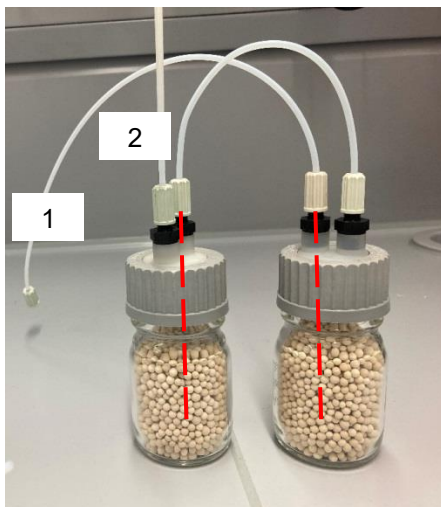
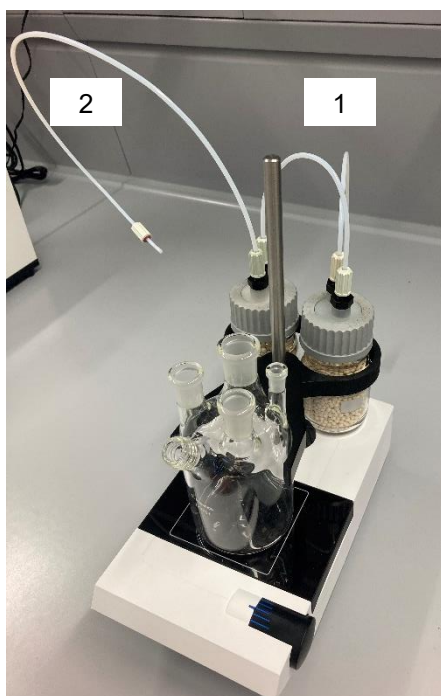
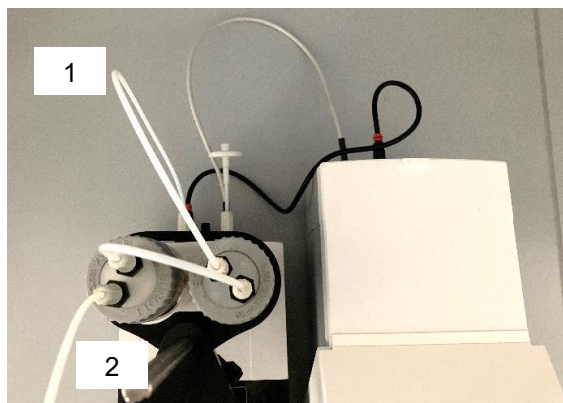

Fig. 11
Fig. 12
Fig. 13
The drying bottles (Fig. 11) preassembled with hoses and filled with molecular sieve are placed in the holder (Fig. 12 and Fig. 13). The free shorter hose (1) is connected to the outlet of the pump. The longer hose (2) is used for subsequent connection to the flow meter.